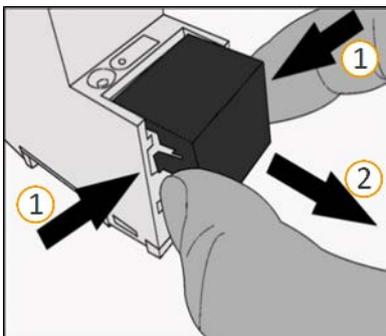

Figure 33: Removing the cover cap
1. Gently press in the cover cap at the side (see figure 33, item 1).
2. Pull off the cover cap upwards (see figure 33, item 2).